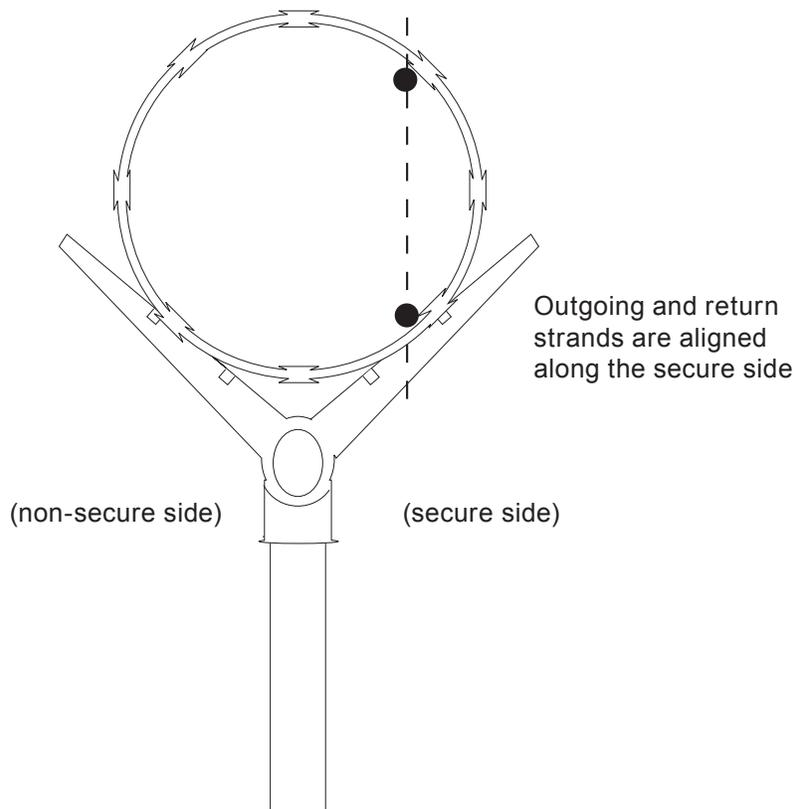

Figure 4 - Sensor cable placement on coils for “loopback” deployments
4. If the cable conduit assembly is being installed in a loopback pattern, ensure the return strand is aligned on the “secure” side of the coils at a vertical level even with the outgoing strand (Figure 4)